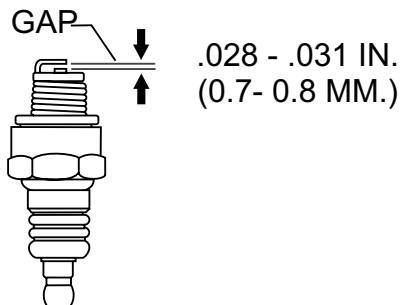

Figure 41. Spark Plug Gap Adjustment
5. Measure the spark plug electrode gaps with a wire-type feeler gauge. If needed, adjust the gap to 0.7 - 0.8 mm (0.028 - 0.031 in), by carefully bending the side electrode. See Figure 41.